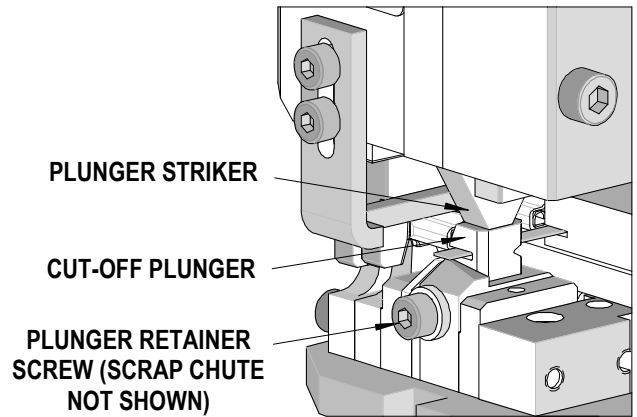

Figure 2-6
- Metal strip applicators** (63881 and 63882 series) have a spring loaded cutoff plunger that must be released prior to removing the anvils. To release the spring load, hold the cutoff plunger down (if the applicator ram is hand-cycled partly down, the plunger striker will hold down the plunger) and use a 3mm hex wrench to remove the plunger retaining screw. After the screw is removed, slowly release the plunger. See Figure 2-6.
- To remove the anvils, use a 3mm hex wrench to remove the (2) M4 SHCS that hold the lower tooling in place.